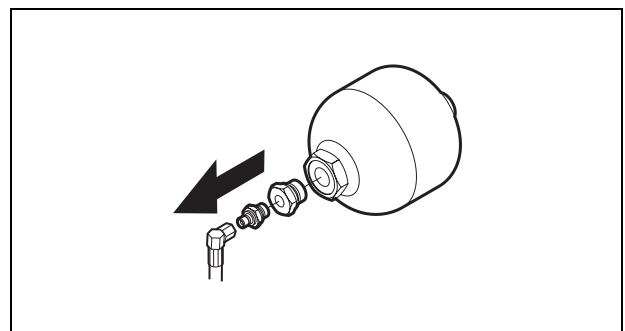

Fig. 34 Remove the hose and nipples from the accumulator
4. Disassemble the hose and the nipples from the accumulator. *See Fig. 34.*